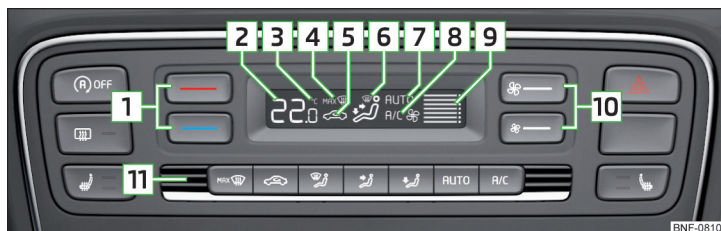

Fig. 90 Controls the Climatronic
Individual functions can be set or switched on by pressing the corresponding button » Fig. 90. When this function is switched on, the corresponding icon appears in the display.
Do not cover the interior temperature sensor **11** » Fig. 90 - the function of the Climatronic could be affected.
▶ To **switch on** press the **AUTO** button. The display shows **AUTO** (pos. **7** » Fig. 90 on page 66).